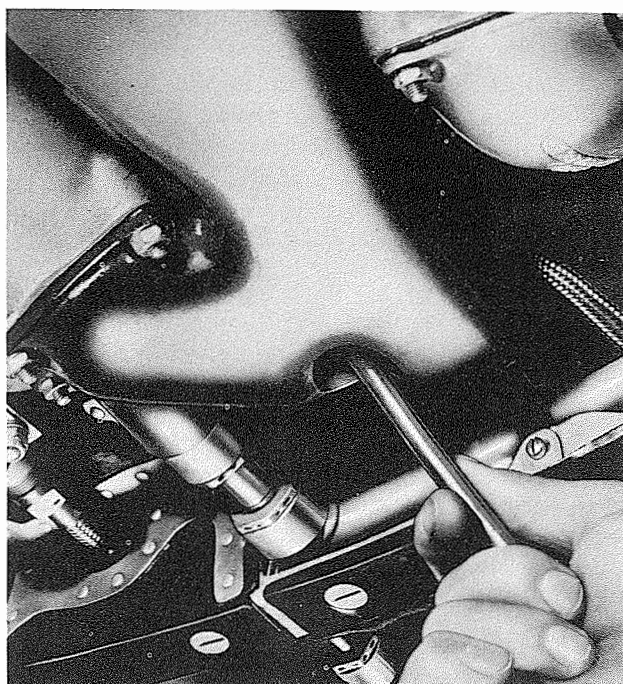

Figure 7-28. Removing Hidden Nut from Rocker Box Cover and Sump Assembly
d. Remove the cover and sump assembly to cylinder rocker box attaching nuts and washers, including the hidden nut in the formed portion of the sump. Wrench 80449 may be used on the nuts. See figure 7-28. Use magnetic tool 84770 for removing the lock washers. Remove the sump.